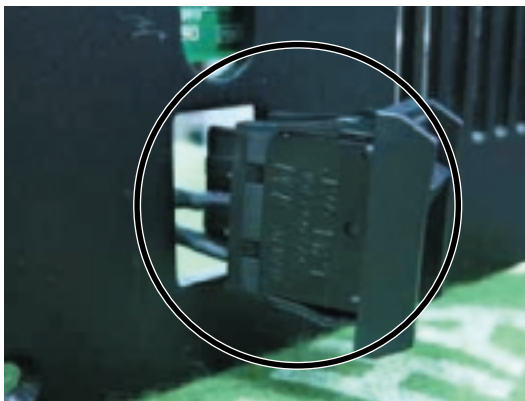

Fig. 4
- 1) Install the power switch to the front panel with its terminals set downward. (Fig. 4, 5)